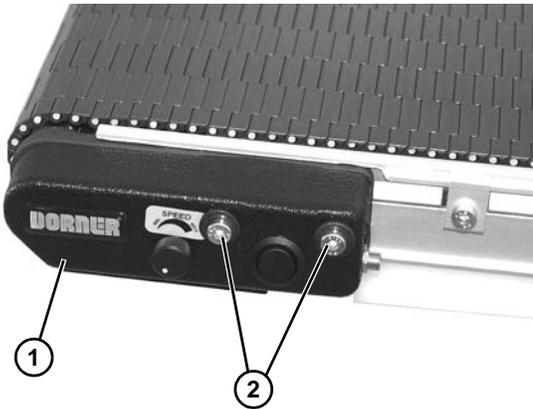

Figure 60
2. Remove inframe drive side cover (Figure 60, item 1) by removing two iDrive cover screws (Figure 60, item 2).